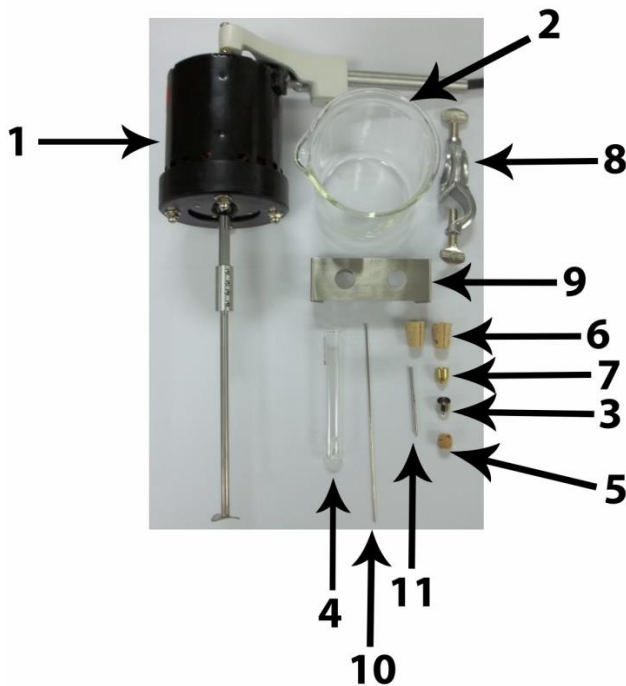

Figure 1: Packing List Components
Included Accessories (See Figure 1 below)
2. Place Beaker (**Figure 1, Item 2**) on Heating Plate.
4. Install the Tube and Thermometer Support (**Figure 1, Item 9**) to the Beaker positioned away from the spout of the beaker. This support can be squeezed for a tighter fit on the beaker.
6. Assemble the stirrer motor (**Figure 1, Item 1**) to the motor support rod using the double rod clamp provided (**Figure 1, Item 8**).
1. Fill the grease test (**Figure 1, Item 3**) with sample by pressing the larger opening into the grease to be tested until the up is filled. Remove excess grease with a spatula.
2. Gently press the cup, held in a vertical position with the smaller opening at the bottom, down over the polished metal rod (**Figure 1, Item 10**) until the latter protrudes about 25mm.
1. Place the smaller of the corks with groove (**Figure 1, Item 6**) and the cork ring guide (**Figure 1, Item 5**) on the thermometer to be used in the test tube.
2. Place the brass thermometer depth gage (**Figure 1, Item 7**) in the test tube.
5. Replace the thermometer depth gage with the grease test cup (**Figure 1, Item 3**) so that the thermometer is inserted to the previously gaged depth. When properly inserted, the bulb of the thermometer does not touch either the grease sample or the cup.
1. Suspend the fully prepared and assembled test tube apparatus in the oil bath through the tube and thermometer support (Figure 1, Item 9) with metal guide.